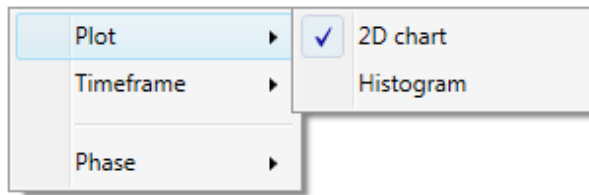

Figure 4-59: Plot shortcut menu
- The Plot option offers a choice of a 2D chart or Histogram as shown in Figure 4-59.